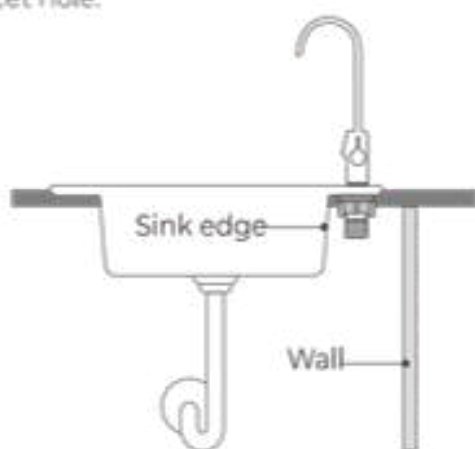

Figure 4
a. Choose a suitable place to install the faucet and leave enough space for the mounting washer to avoid touching the wall or sink. (**Figure 4**).